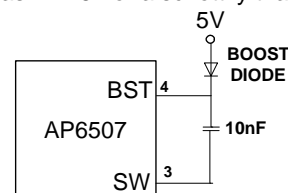

Figure 3. External Bootstrap Diode
- 3) AP6507 can be enabled by Vin through a voltage divider as shown in the figure 3 below.